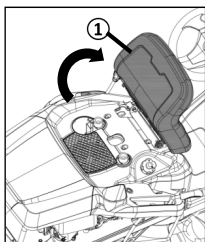

Figure 27
3. Fold the seat forwards (Figure 27 ①).
4. Open the tank cap (Figure 27 ①) and pour the fueling to the tank (Figure 27 ②).
7. Insert the ignition key into the ignition lock (Figure 27).